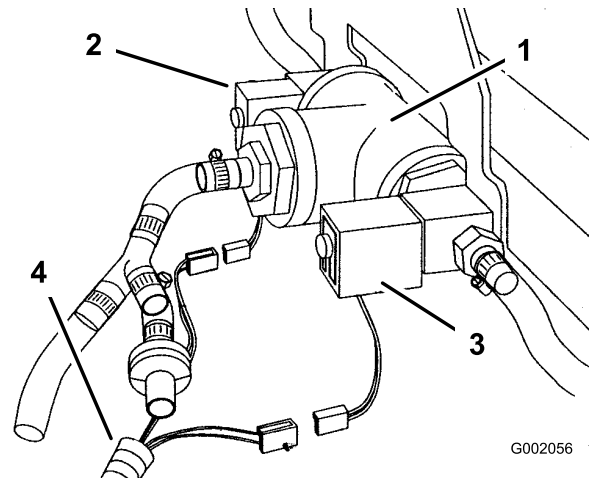

Figure 22
2. Locate the connectors in the rear wiring harness of the sprayer (Figure 22).